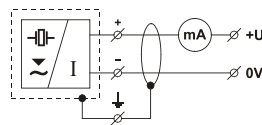

Fig. 14: Connection diagram of the level meter
5. Connect the cable into the bolted clips according to the diagram in Fig. 14.